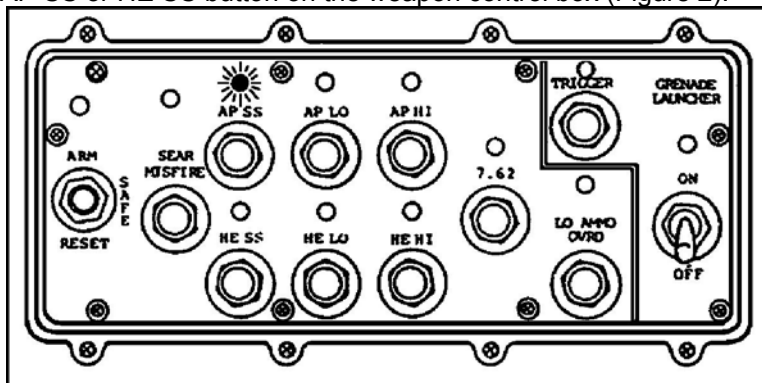

Figure 2. AP SS button and indicator.
(1) Turn the RANGE control knob to 12 (1,200 meters).
(2) Move the MAG switch to HIGH (12X) (until it clicks).
- d. Push the AP SS or HE SS button on the weapon control box (Figure 2).